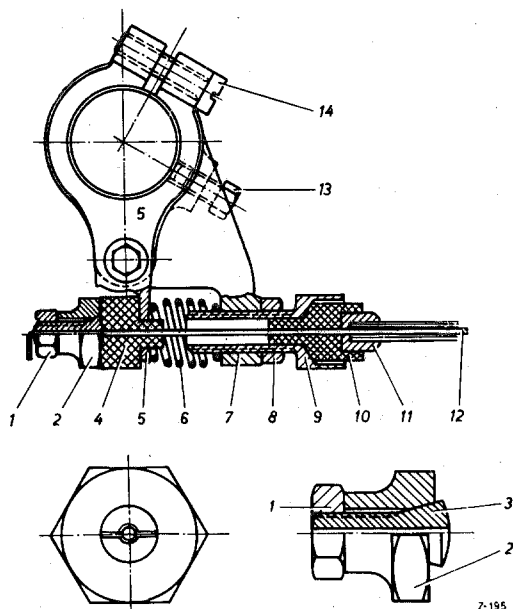

Fig. 01 — 3/23
- d) Push the rubber damping (4) and the clamping chuck (2) onto the Bowden cable as far as the timing lever (5). Grip the Bowden cable in the clamping chuck by tightening up the hexagon nut (1) (Fig. 01 — 3/23).
- e) The cable must be drawn taut by backing out the adjustment screw (9) so that the **timing lever (5) of the distributor is definitely lying against the advance stop**.
Then lock the adjustment screw (9) by tightening up the hexagon nut (8) (see Fig. 01 — 3/23 and Fig. 01 — 3/24) and then remove the clamp (15).